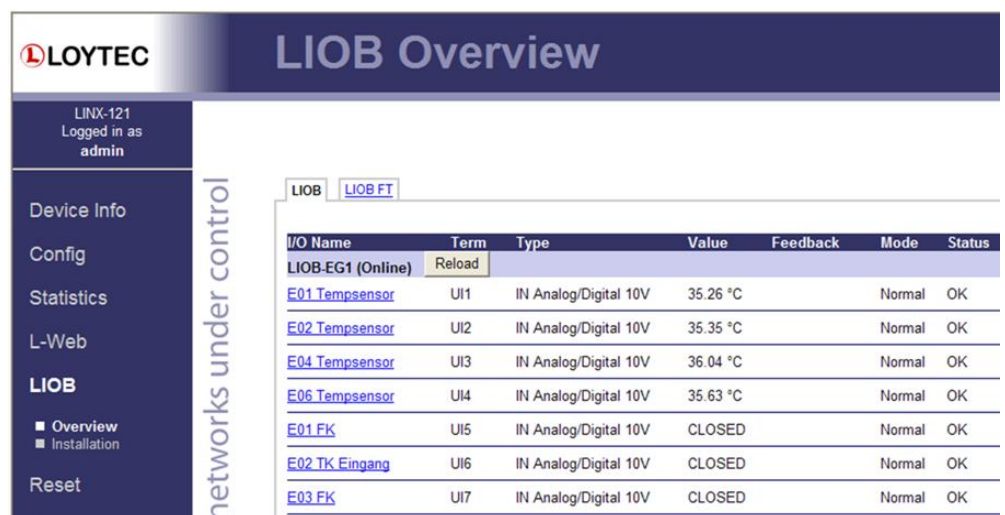

Figure 14: Test L-IOB inputs and outputs on the Web UI.
5. After downloading the L-INX configuration into the L-INX device, the L-IOB input and output terminals can be tested with the L-INX Web UI. An example is shown in Figure 14.